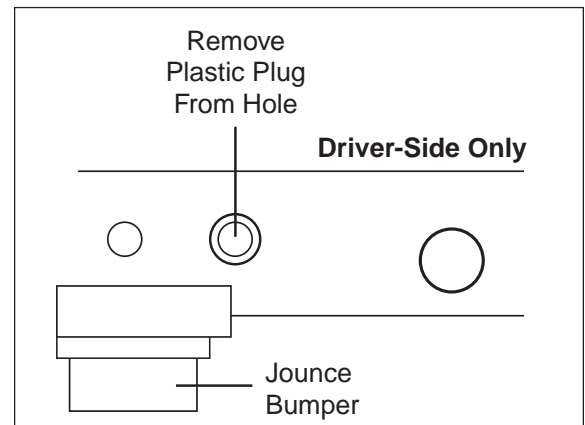

Figure 4
1. On the driver-side, you will have to remove a plastic plug (Figure 4) from the frame in order to attach the upper bracket.